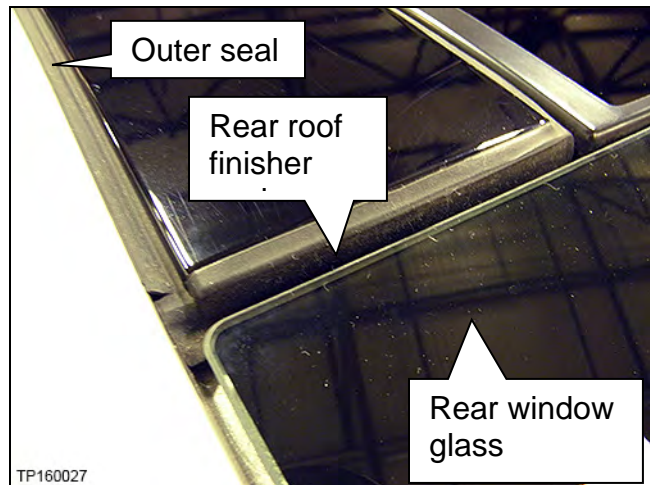

Figure 106
34. Tuck the rear roof finisher seal under the rear window glass (Figure 106).